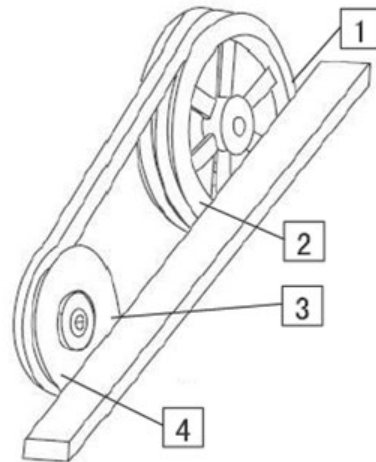

Fig.10-3
■ life of belt. Every time after belt adjustment, you should check if positions of the 2 pulleys are correct, refer to figure 10-3, you can put a ruler on the same side of 2 pulleys to check if positions of 2 pulleys are correct. Check if point 1, point 2, point 3 and point 4 are in the same plane. If not, you can loosen fixed screws of fan pulleys and along the fan axle to slide fan pulleys. Loosen motor to adjust the angle on the fan slide way. Adjust to straightness≤ 2mm.